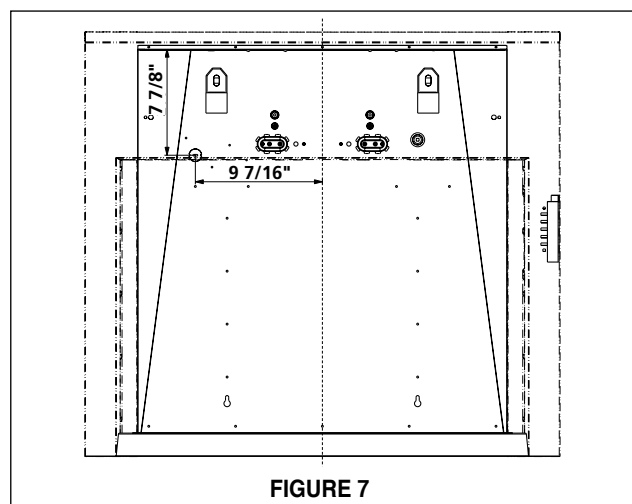

FIGURE 7
1. Remove the cover from the Field Wiring Compartment with a phillips screwdriver. Feed the Power Supply Cable through the electrical knockout (located on back of the hood, **FIGURE 7**). Connect the Power Supply Cable to the rangehood cable. Attach the Power Supply Cable grounding lead to the green screw provided. Attach the White lead of the power supply to the White lead of the rangehood with a twist-on type wire connector. Attach the Black lead of the power supply to the Black lead of the rangehood with a twist-on type wire connector. Using the 4 holes provided screw the Field Wiring Compartment to the wall as dictated by your Power Supply Cable location (screws not provided). Replace the cover.